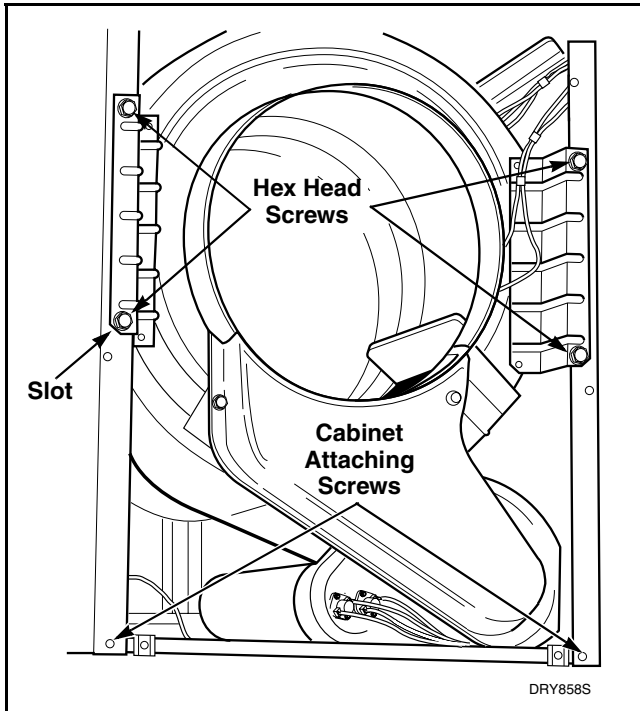

Figure 33
- b. Remove screws holding bulkhead to cabinet and lift assembly out of slots in cabinet. Refer to *Figure 33*.
- h. Remove two hex head screws from front edge at each side of cabinet. Refer to *Figure 33*. Then remove remaining screws around bottom edge of cabinet. Lift cabinet off base.